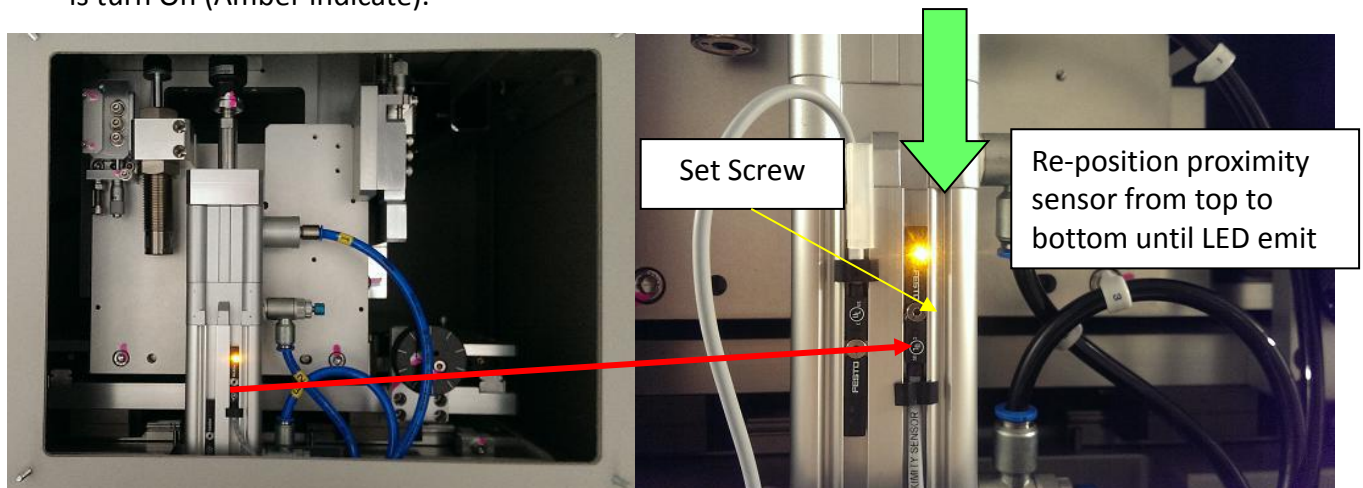

Figure 19
23. While tube cylinder locate at **Upper** position, check proximity sensor signal. If the sensor **NOT** emitted as Figure 19, loosen the set screw and re-position the sensor from top to bottom until LED is turn On (Amber indicate).